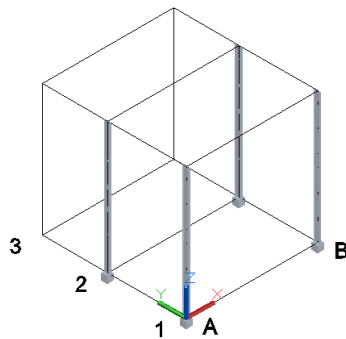

Figure 3-40 Model after adding columns
3. Choose the **Member** tool from the **Parts** panel and then place columns on all the footings, as shown in Figure 3-40. Use grid points for the precise placement of the columns.